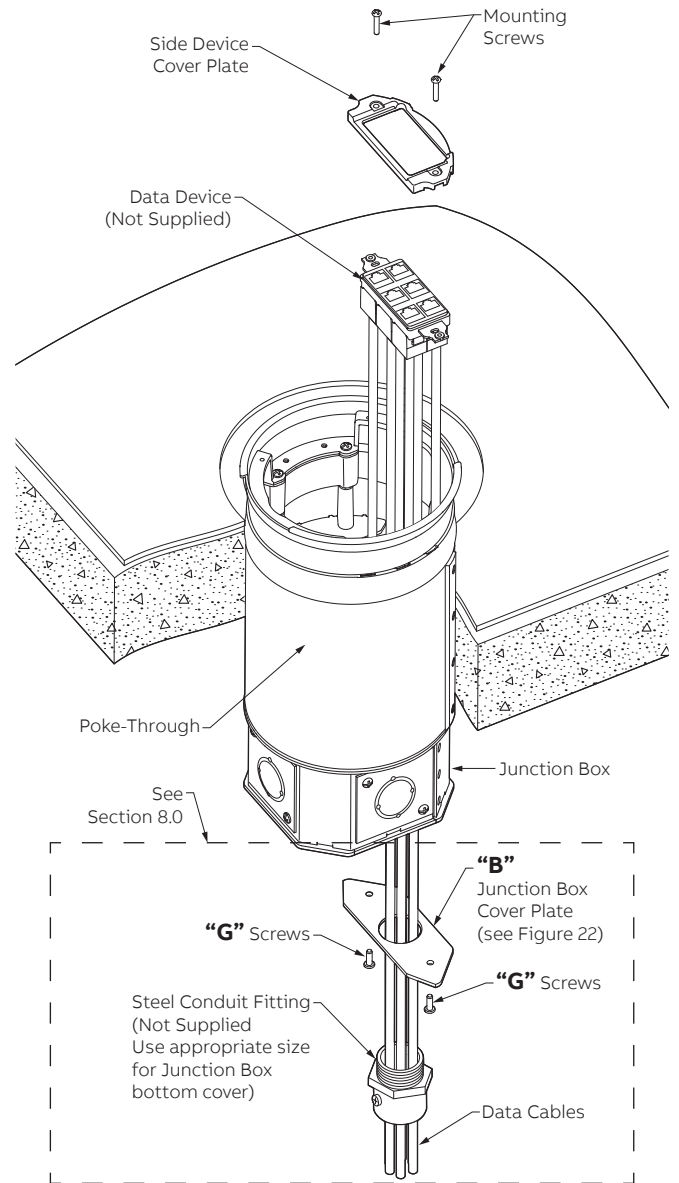

Figure 18
- 7.3 Pull Data Cable through steel Conduit Fitting, hole in Bottom Junction Box Cover Plate and into Junction Box. Route Data Cables up through selected Gang to connect to Data Plate. Data Jacks may already be terminated prior to routing through poke-through. Junction box cover plate may be loosened from junction box when routing cable. (See Figure 18). **NOTE:** If (2) or (3) Gangs have been designated for DATA, Junction Box bottom cover E and D may be used on bottom of Junction Box (see Figure 22).
- 7.5 Secure Data Plate(s) to Poke-Through. Use screws furnished with Data Mounting Plate. Screws must pass through holes in Cover Plates, holes in Data Mounting Plate and thread into tapped holes in 3-Gang Recessed Mounting Surface. (See Figure 18 and 19).